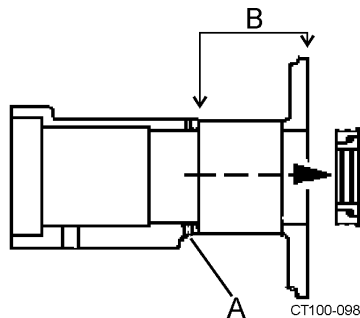
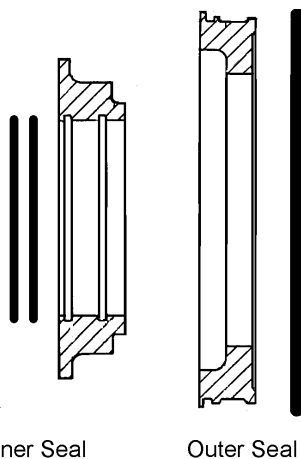

Figure 47 - Remove Setscrews
Figure 48 - Seal Configuration
1. Using an 1/8" hex wrench, loosen the setscrews (Figure 47, item A).
2. Remove the impeller end of the bearing housing (Figure 47, item B).
3. Remove the outer seal ring assemblies (the inner seal ring and O-rings). See Figure 47 and Figure 48.
NOTE: Figure 47 shows the seal position at the motor end. Seals at the pump end face inward. Make sure to tighten the setscrews when installing the outer seal assemblies (Figure 49).